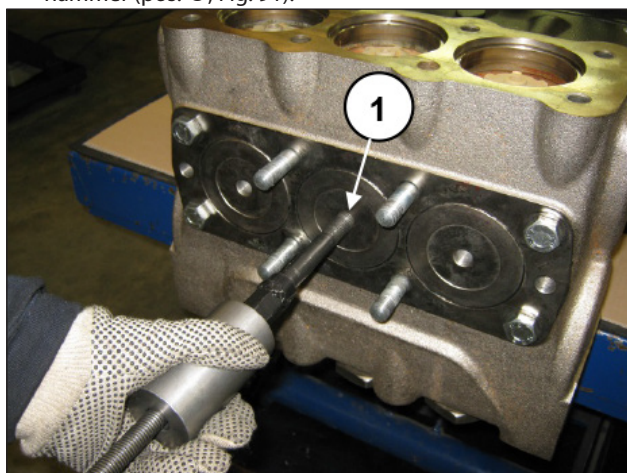

Fig. 91
- C) Remove the front plugs by means of an M16 extractor hammer (pos. ①, Fig. 91).